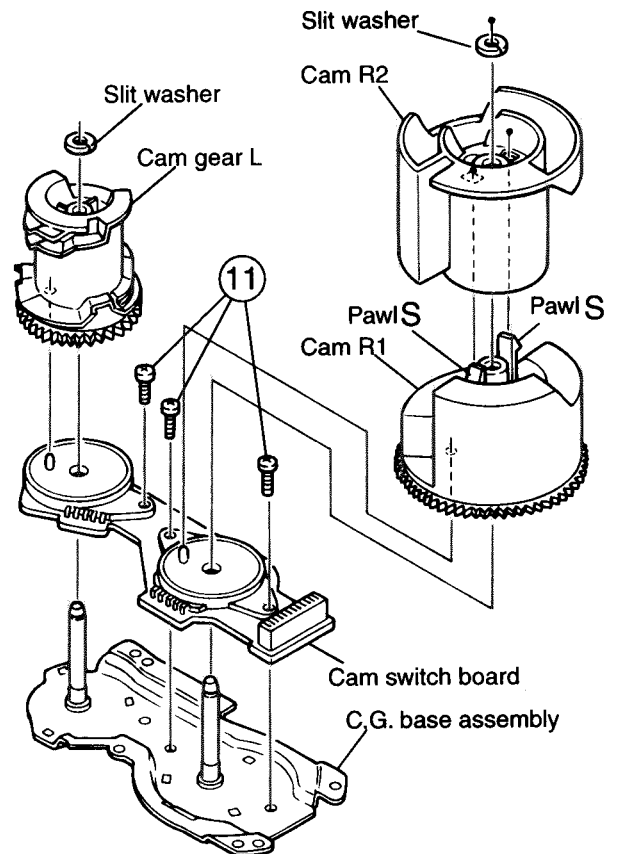

Fig.23
■ Removing the cams R1/R2 assembly and cam gear L (See Fig.23)
■ Removing the C.G. base assembly (See Fig.23 and 24)